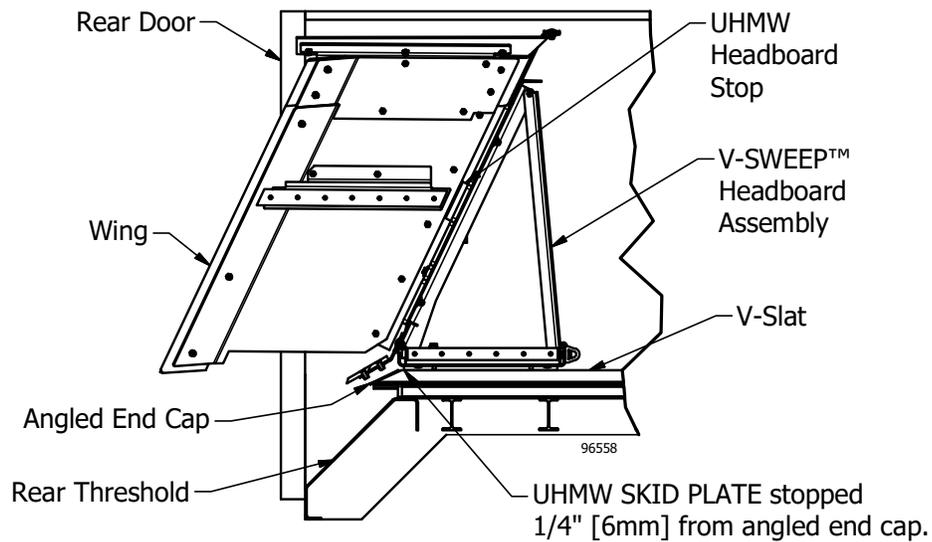
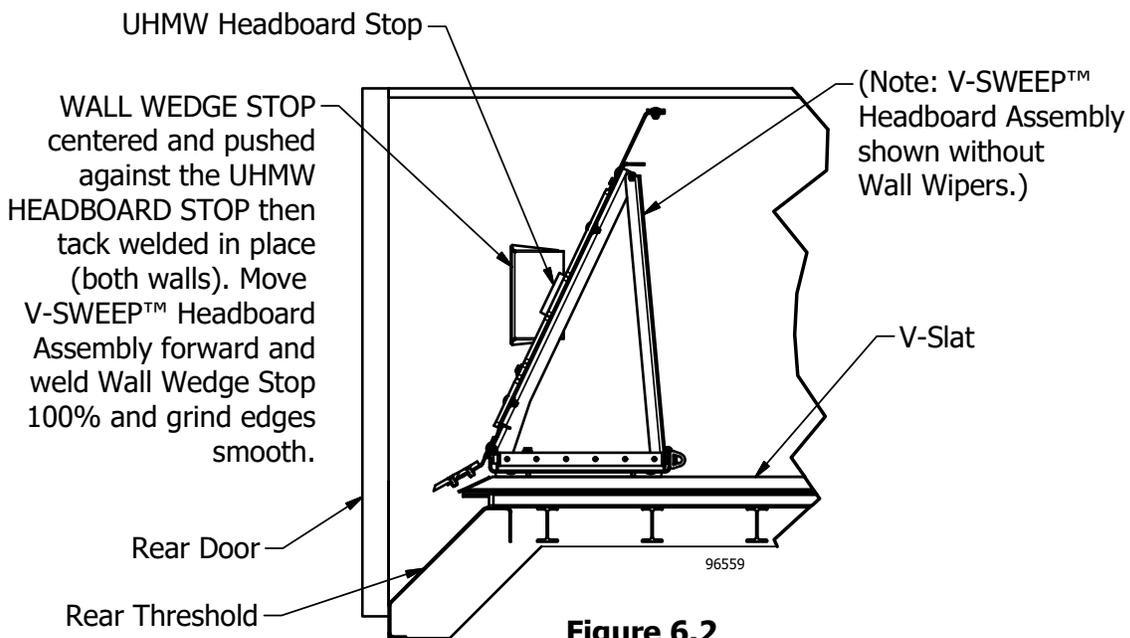

Figure 6.1
Figure 6.2
Step 6: (Figure 6.1) Position the headboard: Cycle floor slats to front of trailer and stop floor. Position V-SWEEP™ headboard assembly at discharge end of floor slats. UHMW skid plate on V-SWEEP™ headboard assembly should not extend over angled end of floor slats. **(Figure 6.2)** With V-SWEEP™ headboard assembly in this position, fold wings toward center of trailer and place wall wedge stop on trailer wall touching the UHMW headboard stop on the V-SWEEP™ headboard assembly. Tack the wall wedge stop to trailer wall in this position. Repeat on opposite side of trailer. Retract headboard out of the way and weld both wedge stops 100% to walls. Grind welds. If these welds are not ground smooth, they will quickly wear out the rubber wall wipers. If the wall wedge stops are not in the correct position, the headboard assembly stops will not come in contact with them and the V-SWEEP™ headboard assembly could fall out of the back of the trailer!!